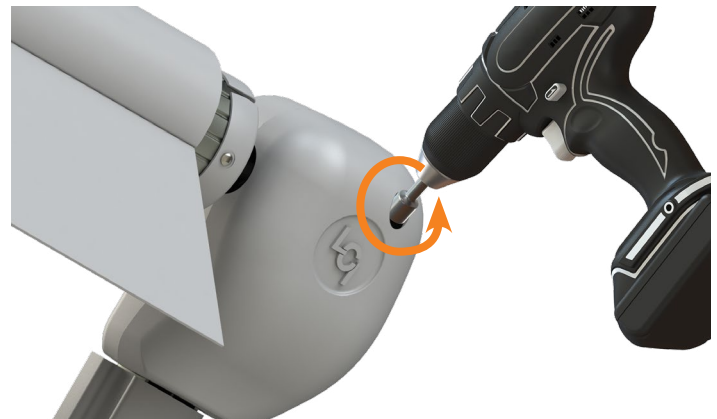

Fig.16
2. Using a $\frac{7}{16}$ " socket and cordless or electric drill or screw gun, spin the manual override nut counterclockwise to retract the awning (**Fig.16**).